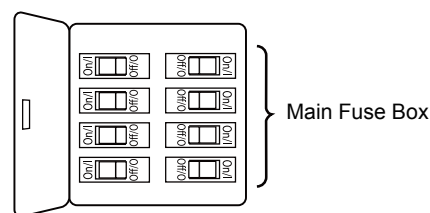

Figure 1
1. Remove the hanger ball portion from the downrod/hanger ball assembly by loosening the set screw in the hanger ball until the ball falls freely down the downrod. Remove the pin from the downrod, then remove the hanger ball. Retain the pin and hanger ball for reinstallation in Step 6. (Figure 1)
To avoid possible fire or shock, be sure electricity is turned off at the main fuse box before hanging. (Figure 1)